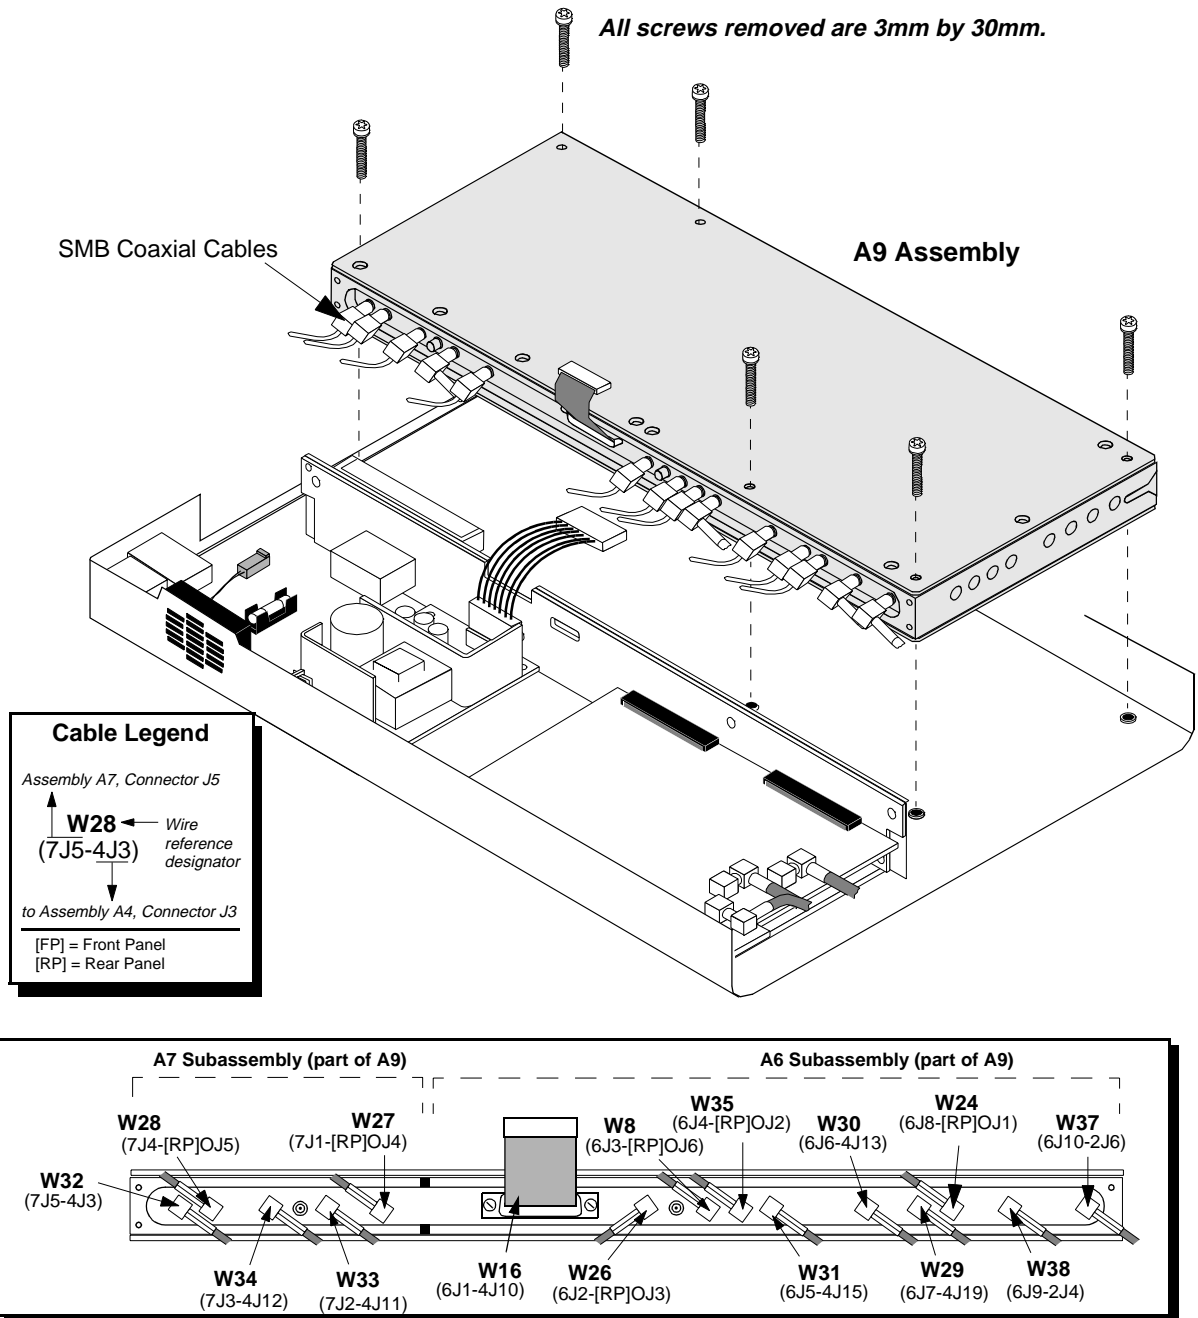

Figure 26 **Removing the A9 Assembly**
5. Remove the 6 screws that secure the A9 assembly to the deck, see figure 26 on page 73. The A9 assembly can now be lifted from the deck.
6. Disconnect all the SMB connectors from the A9 assembly, see figure 26. Cable clips identify each SMB connector. The cable clips identify the assembly and "J" connector on the assembly that the SMB connector goes to. For example, SMB cable with cable clips "9J5" means the SMB connectors goes to A9 assembly, connector J5.
This completes the procedure for the removal and disassembly of the A9 assembly. When reassembling the A9 assembly, use figure 26 to help you determine the location of the SMB connector/coaxial cables.